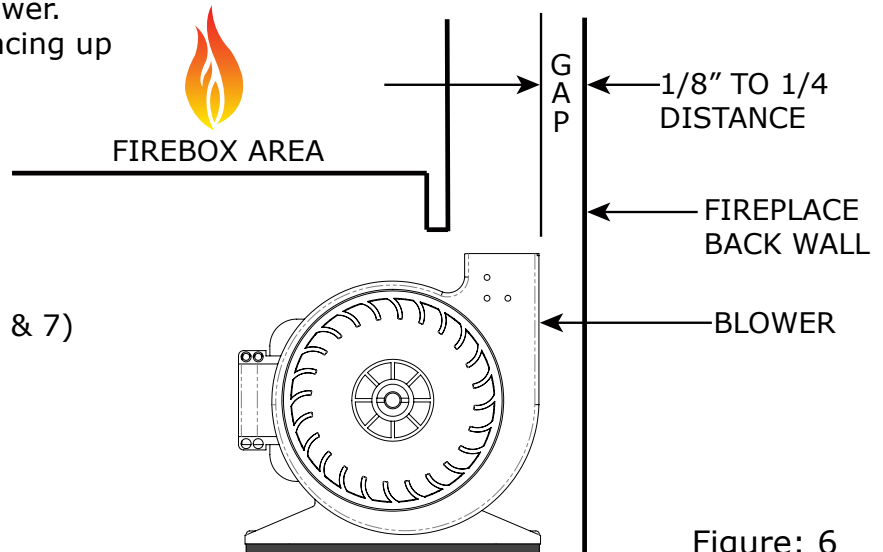

Figure: 6
- Position blower 1/8" to 1/4" from back wall of fireplace. (Figure: 6)